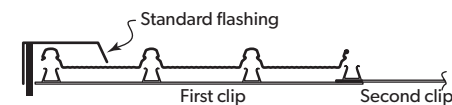

Figure 9.1.3
2. Position the first clips on each support by placing onto the support nearest the roof edge. (Figure 9.1.3).